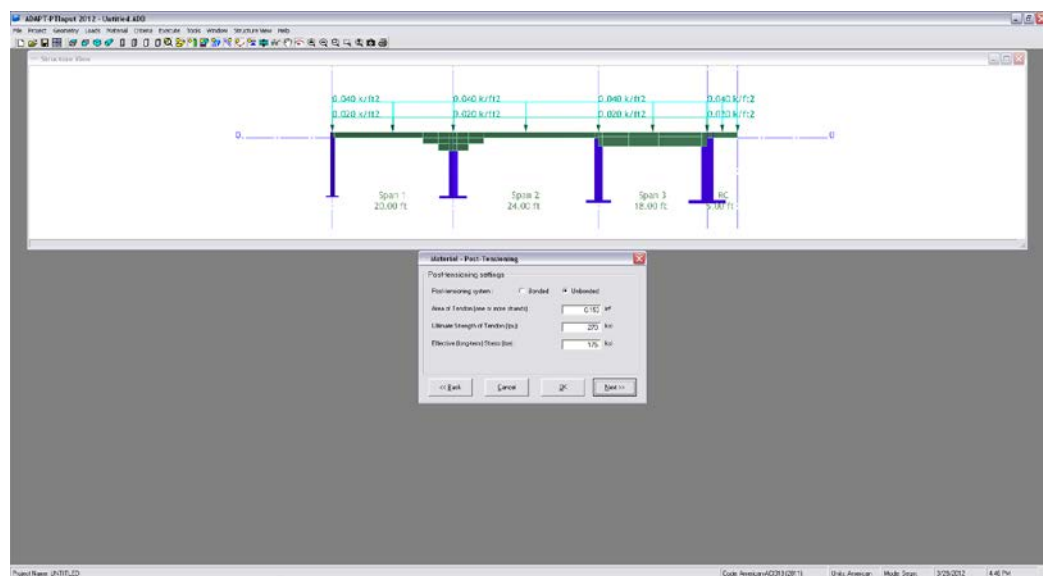

FIGURE 5.3-20
5.3.4.3 Enter The post-tensioning system parameters (Fig. 5.3-20)